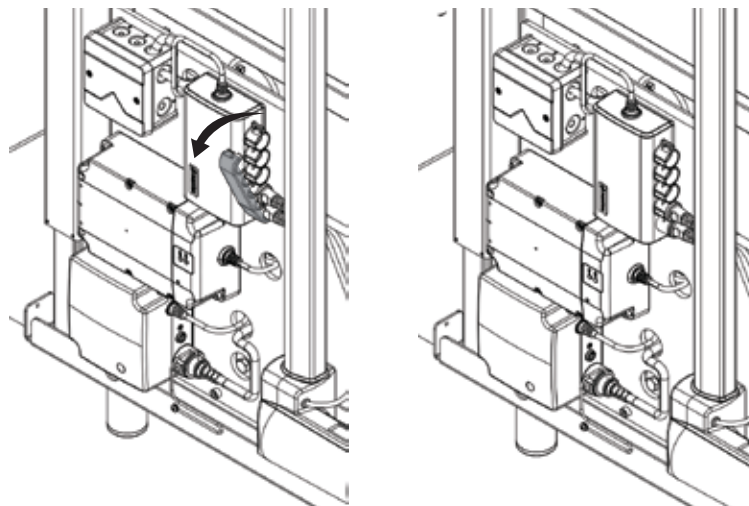

Fig 12.5a
- To remove the handset cable, the control box connector lock will need to be removed first. This may be released from the top and rotated to unhook from the bottom, Fig 12.5a.
- Ensure the cable from the cover is routed behind the actuator and plugged in fully. The connector lock should now be refitted in the same way it was removed (Fig 12.5a). This ensures the cables are held in place and cannot pull free.